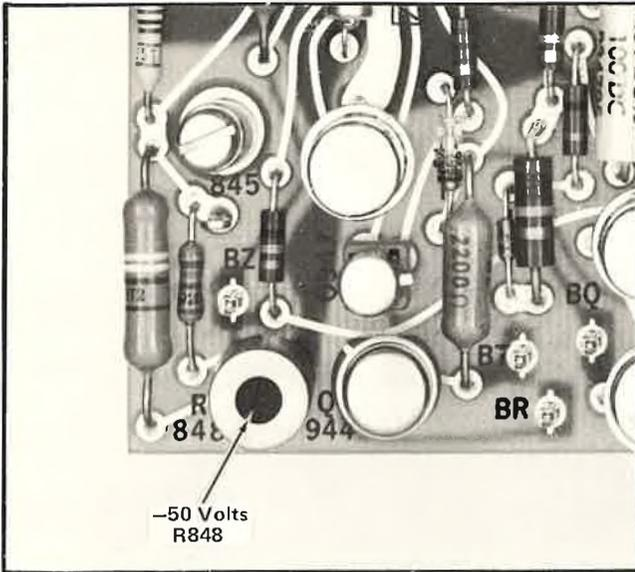

Fig. 5-2. Location of -50 Volts adjustment, R848, on the Power Regulator board.
c. ADJUST— -50 Volts adjustment, R848 (see Fig. 5-2) on the Power Regulator board, for a meter reading of exactly -50 volts. Removal of the power unit from the 7503 is necessary to make this adjustment. See Section 4 for power unit removal procedure.